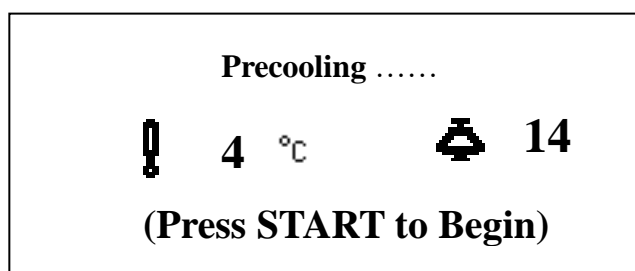

Figure 7-5 Pre-cooling interface
- The pre-cooling screen is shown as figure 7-5.
- During the pre-cooling operation, the Figure 7-5 displays the operating temperature.
- During the pre-cooling process, the instant rotating speed can be checked by pressing the  button. The value will displays at left corner of the Screen and disappears 3 seconds later. And the instrument will return to the state of Figure 7-5.